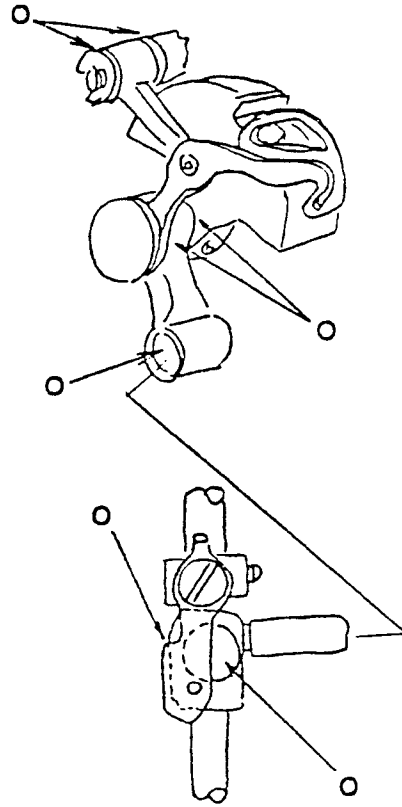

Fig. 43-3
6. Apply a few drops of oil to the take-up lever assembly and needle bar latch as indicated on Fig. 43-3.